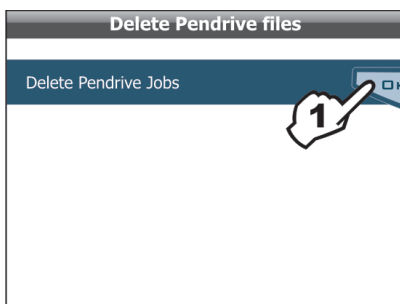

Fig. 69
- 1 Select item **Delete Pendrive Jobs** (Fig. 69) and press **OK**;